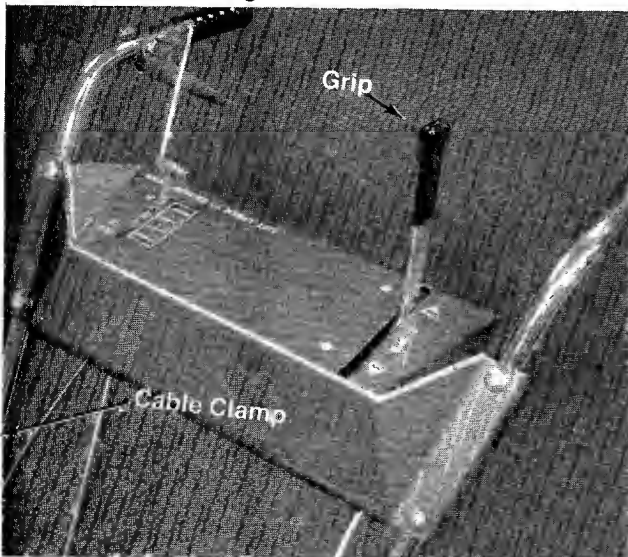

FIGURE 6
7. Place the grip on the blade engagement lever. (See figure 6.)